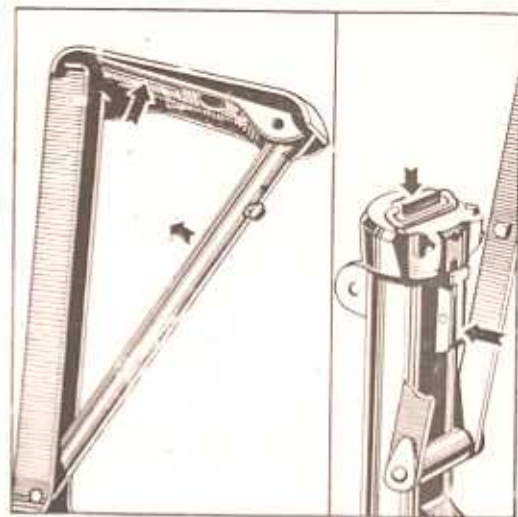

Fig. 9. To close butt
- 7.0 TO CLOSE BUTT** (Fig. 9). Release the butt plate catch and collapse the triangle by pushing the tubular member into the frame. With the thumb of the left hand press the back cap catch, at the same time push the back cap forward and swing the butt away from the back cap. Pivot the butt to its folded position, swing the butt plate out to operate the butt catch to engage in the barrel casing, then fold the butt plate flat to lock in position.